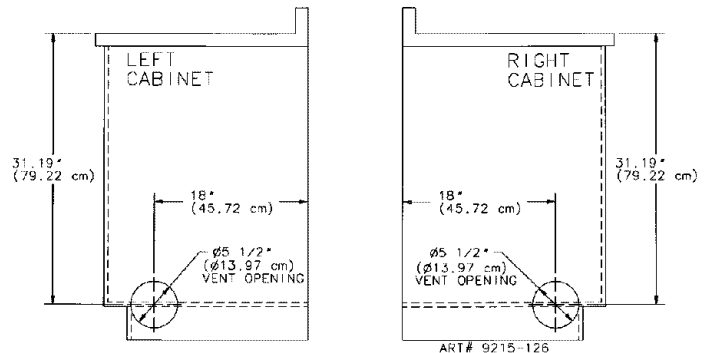

Figure 13
c. **Through the Left or Right side cabinet.** (See figure 13).
2. Cut hole in either the left or right side of the cabinet wall as shown in figure 13.